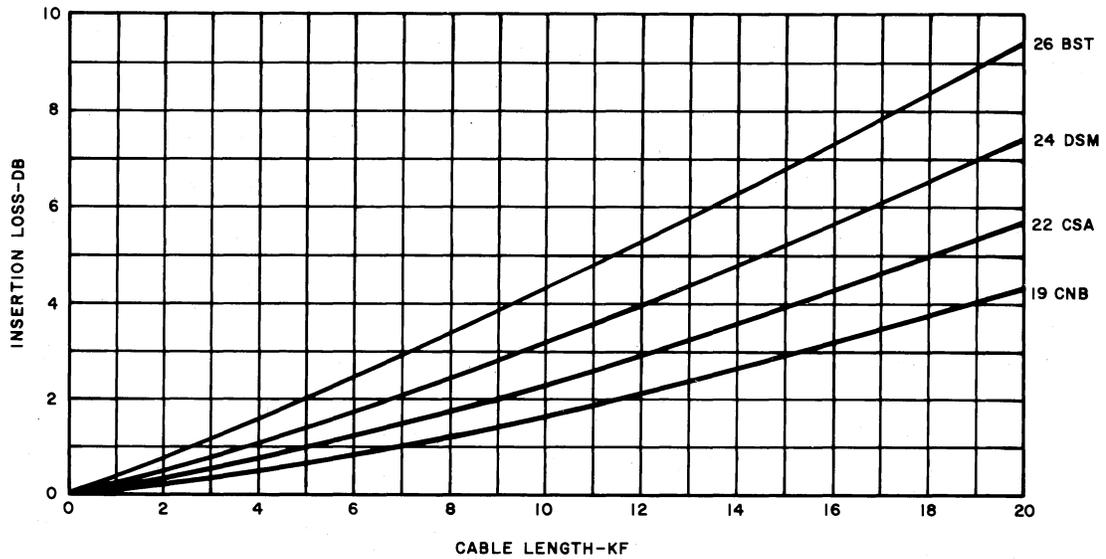
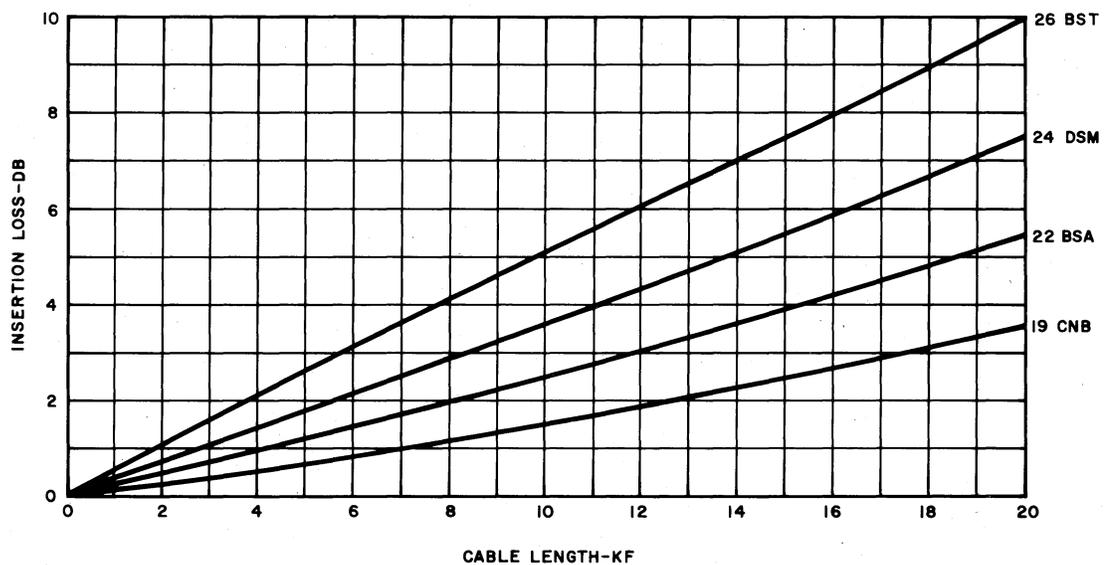

Fig. 4—1-kHz Insertion Loss of Nonloaded Cable Between 900-Ohm Impedances
Fig. 5—1-kHz Insertion Loss of Nonloaded Cable Between 600-Ohm Impedances
5.11 Figure 3 shows the combined loss of *equalizers and cables* of a repeater section for solid-gauge nonloaded facilities measured between 600-ohm impedances. Do not add reflection losses, since they are already included. Figure 3 should not be used for mixed-gauge facilities. Figure 4 shows the loss of *cable alone* between 900-ohm impedances, and Fig. 5 shows the loss of *cable alone* between 600-ohm impedances. Bridged tap losses depend on length and location of bridged taps and on the impedance of the cable terminations. Approximate losses are as follows: